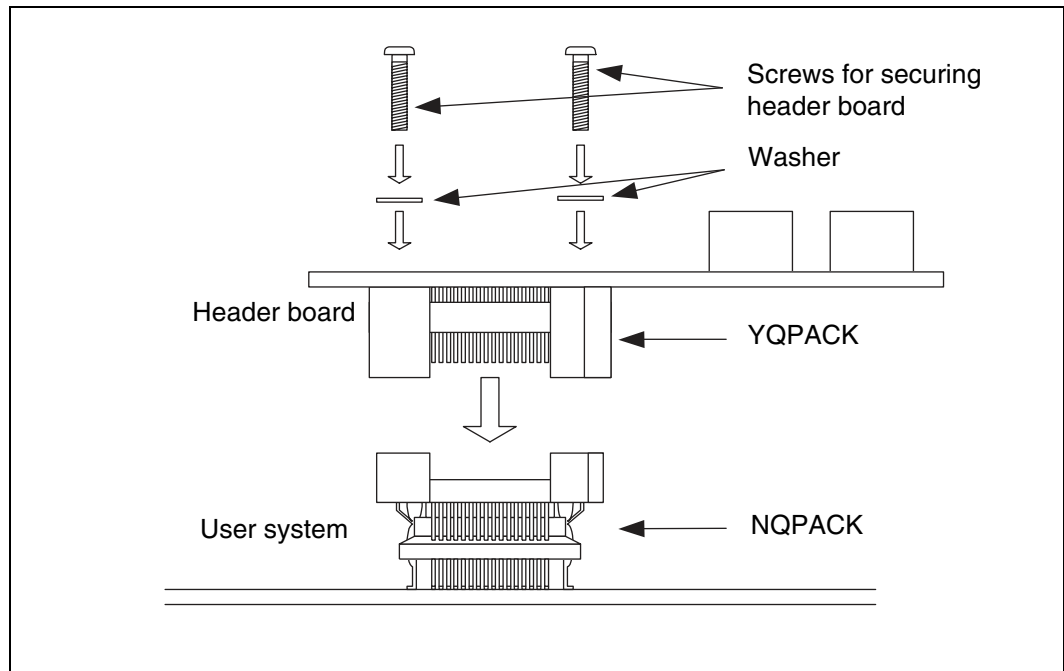

Figure 4 Header board connection
2. Insert each header board mounting screw for header board in each of the four screw holes on the header board through a washer, and then first tighten the screws in opposing corners followed by the two remaining screws (see Figure 4). To tighten the screws, use the special screwdriver supplied with the NQPACK to finally tighten the four screws in sequence. Tightening the screws too tight might result in a defective contact.